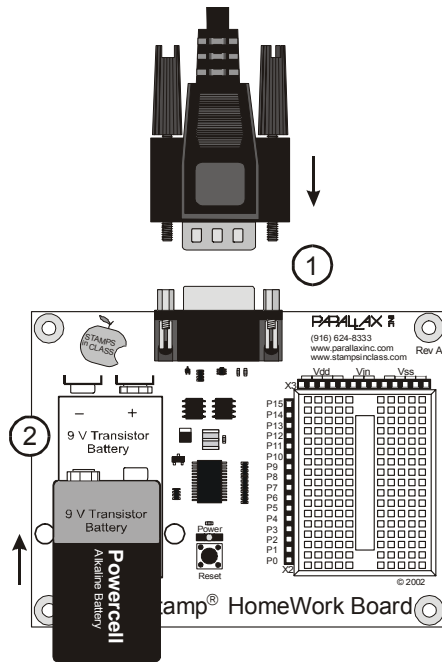

Figure 1-29
- √ Connect the serial cable and battery to the HomeWork Board (Figure 1-29, steps 1 and 2).